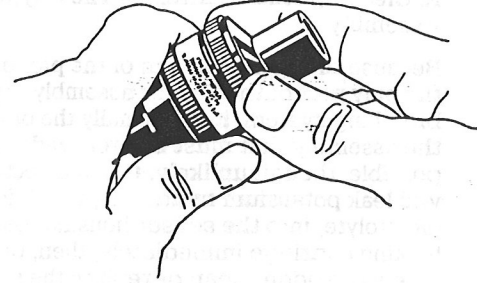

Figure 6-9
- d. Lift the sensor cartridge out of the probe's cable end. (See figures 6-9 and 6-10.)